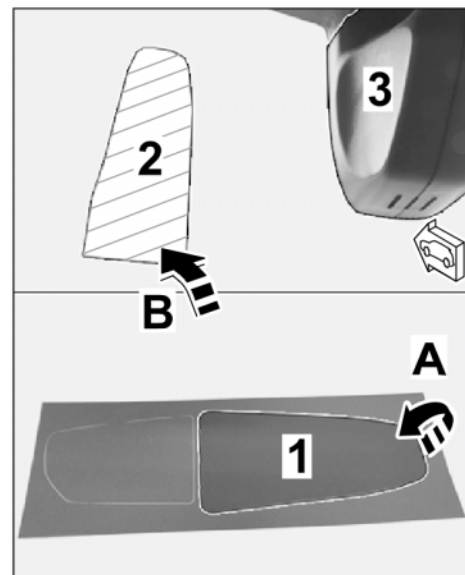

Figure 6
2.2.1 Pull 3M privacy film off the backing sheet (⇒ *Figure 6 -A-*).
2.2.2 Position 3M privacy film on the marked bonding surface on the windshield (⇒ *Figure 6 -B-*).
2.2.4 Pull protective film off the front camera retainer plate (⇒ *Figure 6-A-*).